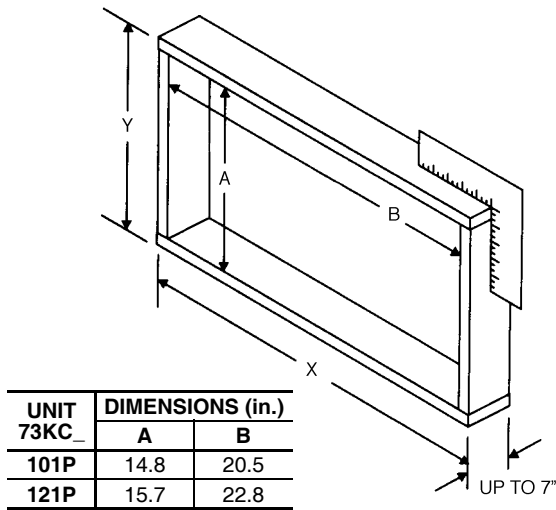

FIGURE 21 — FRAME CONSTRUCTION
7. Follow all local building codes when building and installing frame. Build a wooden frame that will be placed around the unit in the wall. The frame will reinforce the hole in the wall where the air conditioner is installed and is used to secure the air conditioner to the wall. The frame should have an inner dimension of 20.5-in. width by 14.8-in. height for 73KC_101P air conditioners or 22.8-in. width by 15.7-in. height for 73KC_121P air conditioners to ensure that the air conditioner will fit inside the frame. See Fig. 21. The depth of the frame should approximately match the depth of the wall. The thickness of the frame will need to be added to the dimensions to determine the size of the hole in the wall.